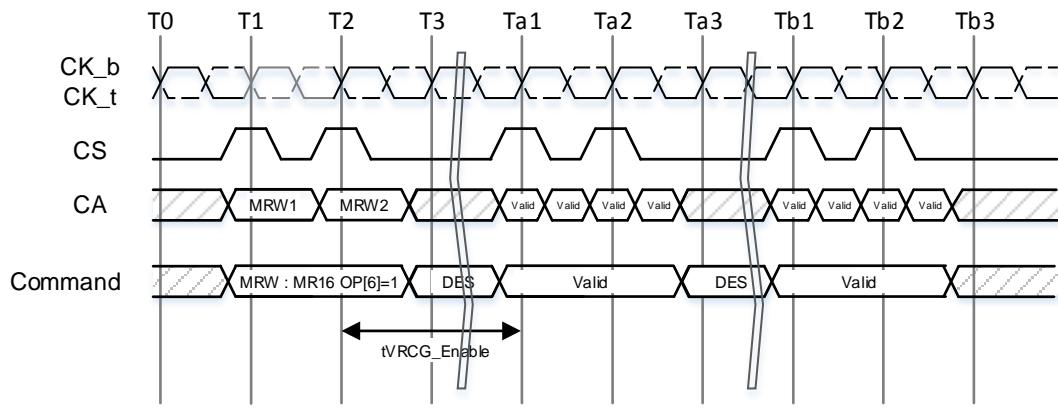

Figure 156 — VRCG Enable Timing
LPDDR5 SDRAM VREF current generators (VRCG) incorporate a high current mode to reduce the settling time of the internal V_{REF}(DQ) and V_{REF}(CA) levels during training and when changing frequency set points during operation. The high current mode is enabled by setting MR16 OP[6] = 1. Only Deselect commands may be issued until tVRCG_ENABLE is satisfied. tVRCG_ENABLE timing is shown in Figure 156.